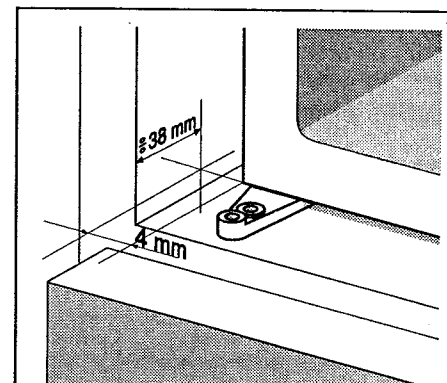

Fig. 1
- Push the appliance for some 38 mm into the kitchen unit and allow at least 4 mm free space on both sides between the appliance and the side walls of the kitchen unit (Fig. 1).